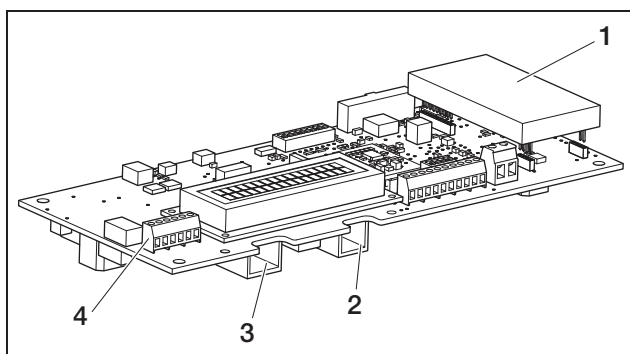

Fig. 33: Communication interfaces
- Insert the plug of the Ethernet cable into the corresponding socket (3 figure 33).
- Insert the plug of the telephone cable into the corresponding socket (2 figure 33).
Instead of the RJ45 and RJ11 sockets, you can use the six-pole screw terminal to connect the Ethernet cable and telephone cable (4 in figure 33). This type of connection is intended for installation in large systems.